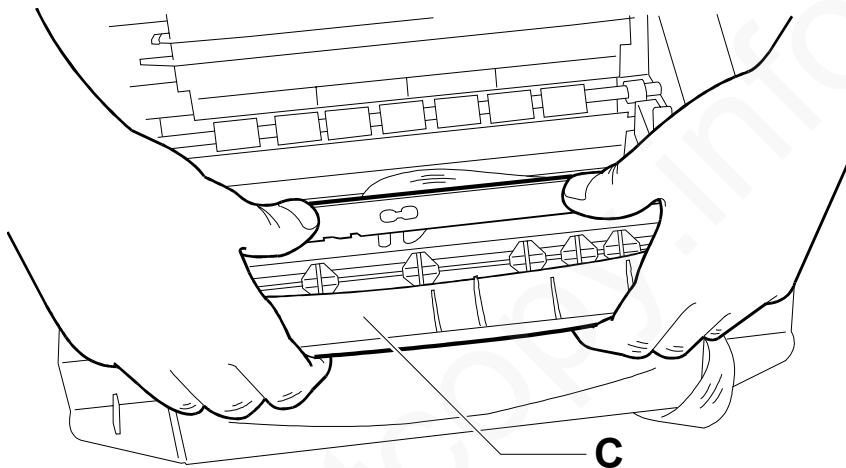

Fig.7-11
- 2) Release the outlet **C** flexing it upward with both hands, then rotating it forward (Fig. 7-11):